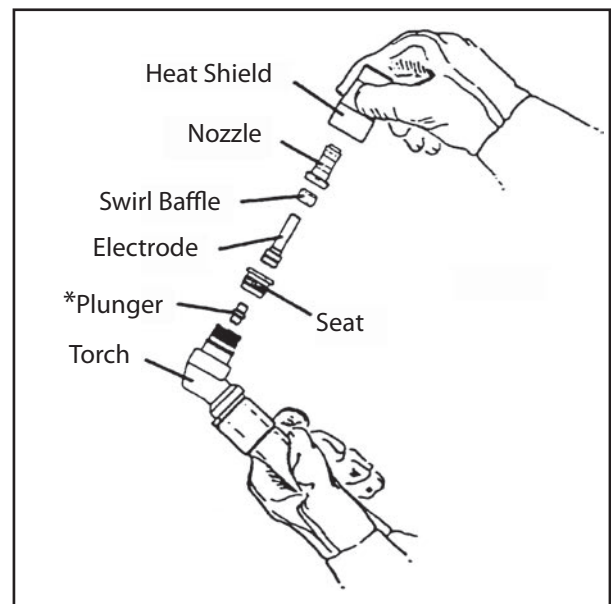

Figure 3-2 Front End Assembly
1. To disassemble the front end, hold the torch with the shield in an upright position as shown in Figure 3-2. This will prevent the nozzle, electrode, and swirl baffle from falling free when the shield is removed.
1. To assemble with the torch front end facing up, assemble electrode, swirl baffle, tip and heat shield in that order as shown in Figure 3-2. The swirl baffle is symmetrical and it can be positioned either way. Tighten heat shield snugly to hold the parts in firm contact with each other and the torch head. Do not overtighten the heat shield.